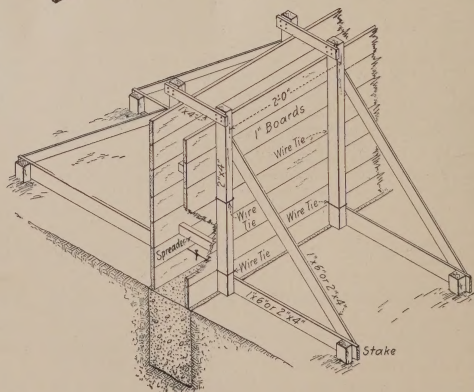

Figure 11—Wall form for small structure such as garage where foundation wall is poured in trench dug in the ground.
67. Figure 11 shows the method of bracing wall forms built on a footing already in place. Wires around the studding hold the forms together, and can be tightened to make the distance between the forms the exact thickness of the wall. Pieces of wood, called spreaders, each cut to a length equalling the thickness of the wall, are inserted to keep the walls the right width. They are knocked out and removed as the concrete is poured.